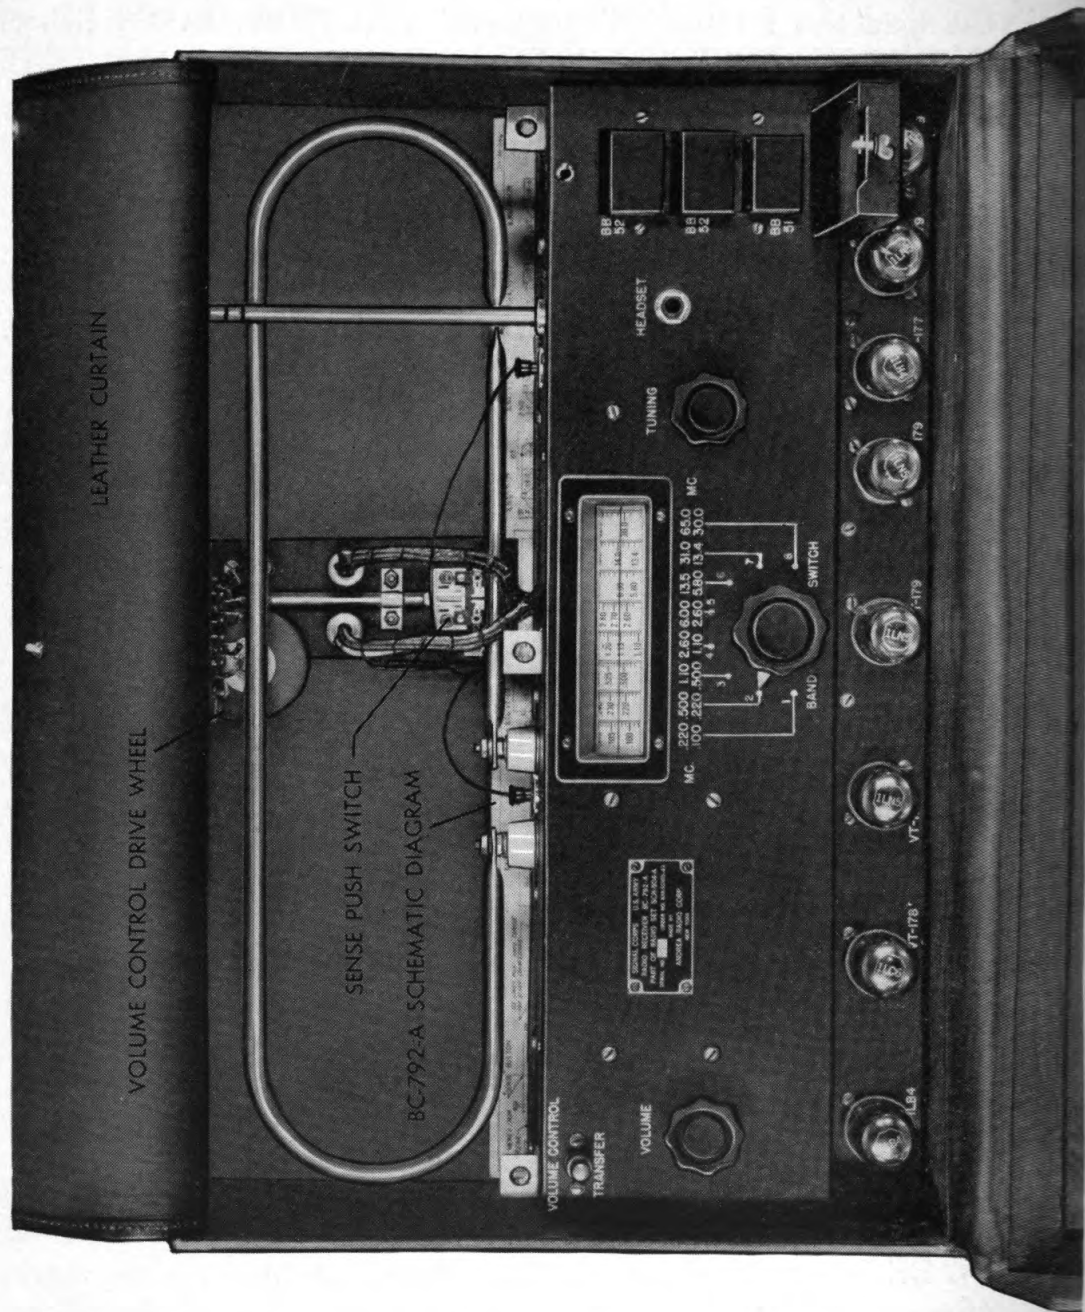

Figure 10. Radio Receiver BC-792-A, Suitcase Open, Curtain Up, Showing Loop Antenna, Battery Box Open Showing Batteries
Headset HS-34-A, provided with Radio Receiver BC-792-A, is connected to the HEADSET jacks on the control plate (figure 11). This headset, of the hearing-aid type, uses ear inserts, one to fit each ear. A panel HEADSET jack (figure 10) is provided for connecting conventional headset by means of standard Plug PL-55.
b. Turn wing fastener at top of battery compartment door at right side of panel and open battery compartment door. Push BB-51 and two BB-52 batteries into compartments indicated by the markings (figure 10). Make sure to push them in as far as they’ll go. Close and fasten battery compartment door.
b. Select frequency band by turning BAND SWITCH knob, front of receiver panel (figure 10).
e. Tune in the desired signal with TUNING control. The signal frequency is indicated in megacycles on the drum dial above the BAND SWITCH markings (figure 10).